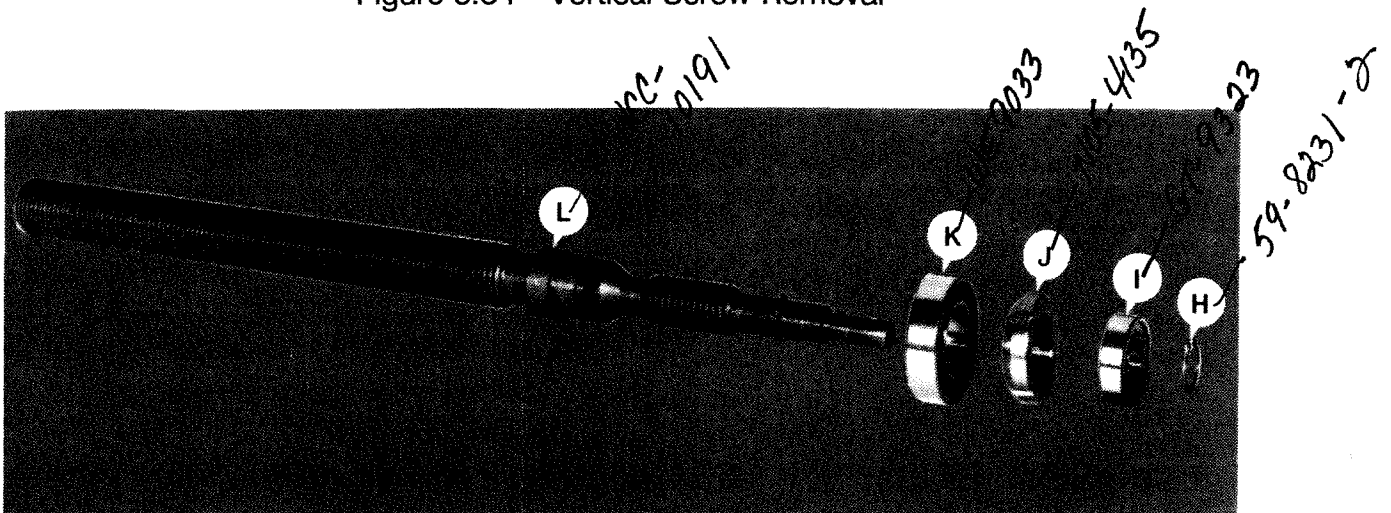

Figure 3.35 - Vertical Screw Components
12. Remove snap ring "H", bearing "I", nut "J", and bearing "K" from vertical screw "L", Figure 3.35 .
5. Replace bearing "K", nut "J", bearing "I", and snap ring "H" on vertical screw "L", Figure 3.35 .